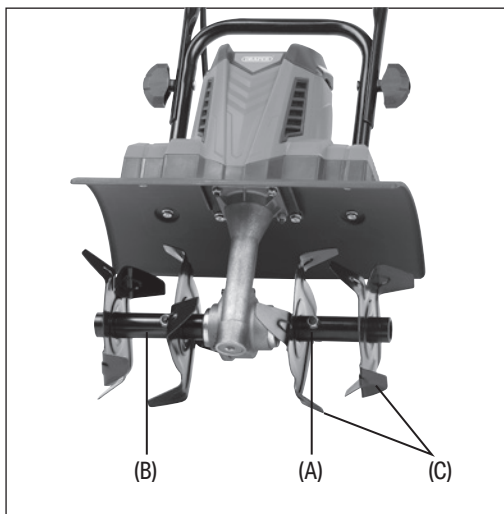

Fig. 6
8.2 Replacing the Cutting Blades (Fig. 6)